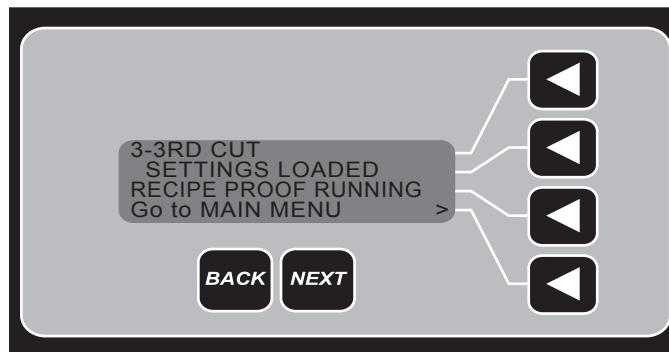

Fig. 11
- Load product if temperature is within 5 degrees of set point. When product is loaded and door is closed, press START/STOP button to start the timer countdown. Dot will flash in corner of TIMER NUMBER display when counting down. RECIPE PROOF RUNNING will display (Fig. 11).